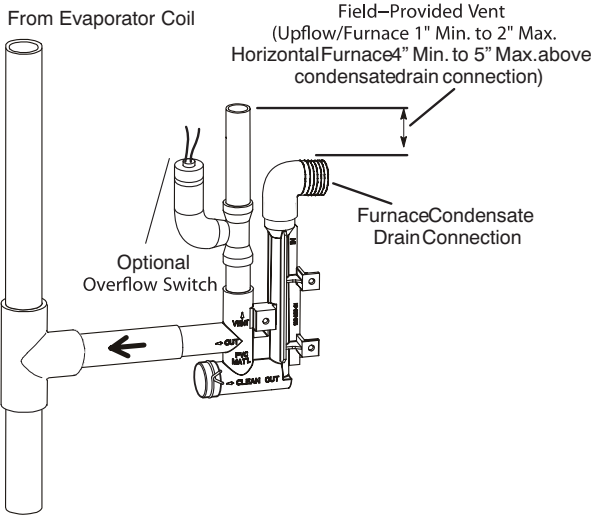
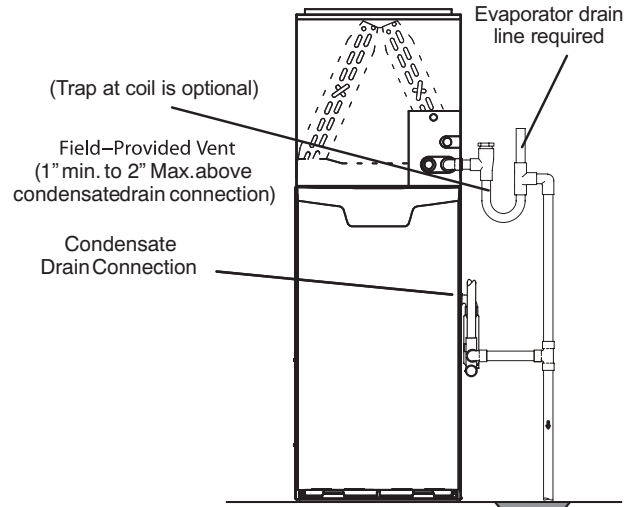

FIGURE 39
FIGURE 40
- 5 - FIGURE 37 and FIGURE 38 shows the furnace and evaporator coil using a separate drain. If necessary the condensate line from the furnace and evaporator coil can drain together. See FIGURE 39, FIGURE 40 and FIGURE 41. *Upflow furnace* (FIGURE 40) - In upflow furnace applications the field provided vent must be a minimum 1" to a maximum 2" length above the condensate drain outlet connection. Any length above 2" may result in a flooded heat exchanger if the combined primary drain line were to become restricted. *Horizontal furnace* (FIGURE 41) - In horizontal furnace applications the field provided vent must be a minimum 4" to a maximum 5" length above the condensate drain outlet connection. Any length above 5" may result in a flooded heat exchanger if the combined primary drain line were to become restricted.